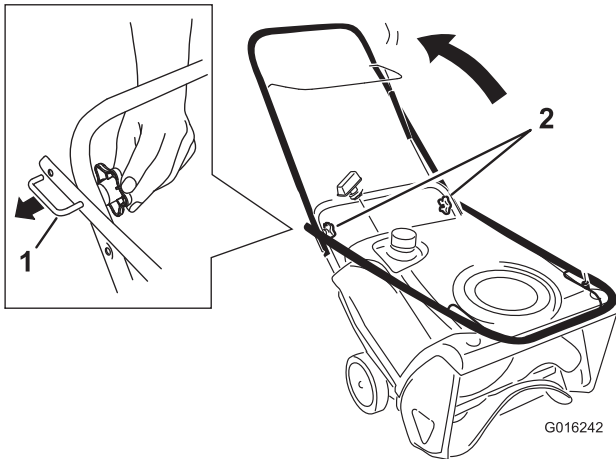

Figure 4
- Loosen the handle knobs, pull out the U-shaped handle locks until you can move the handle freely, and rotate the handle to the operating position (Figure 4).